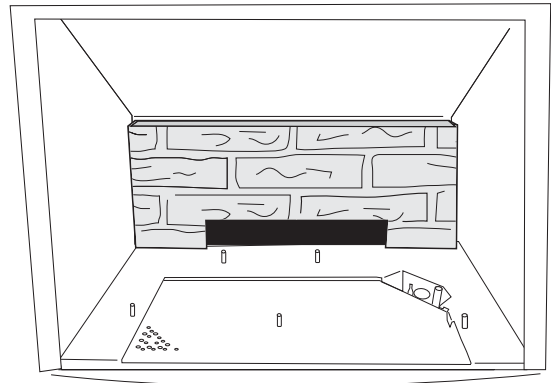

Figure 49. Install Lower Rear Panel
- 4. Install the Lower Rear Panel.** Position it up against the back wall, resting on the burner skirt. Fig. 49.